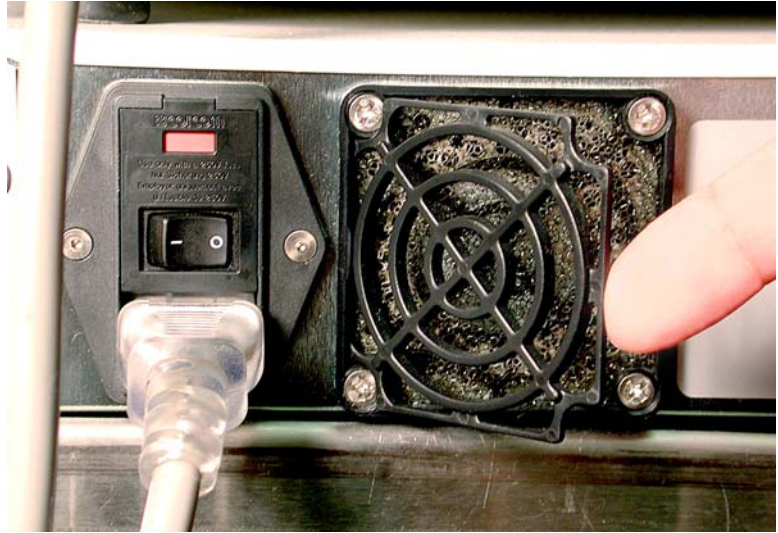

Figure 6-3 Removing the Screen
2. On the back of the Luminex XYP instrument, to the left side, gently remove the screen from the Luminex XYP instrument filter. **Note: Do not remove the screws.** See Figure 6-3.